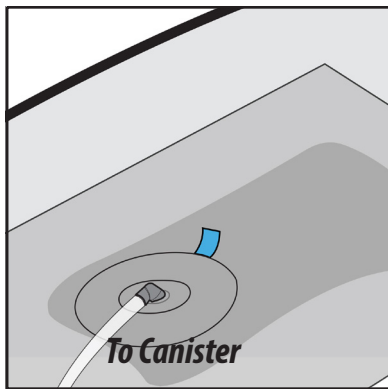

Figure 15
6. Select desired location for Irrigation SpeedConnect™. Cut a 1cm diameter hole in the top of the drape where the Irrigation SpeedConnect™ is to be placed (**Figures 15 and 16**).